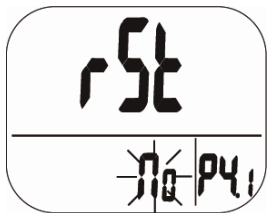

Fig. 18: no reset
- Press SET to enter P4.1 mode with blinking “No” (default), see Fig. 18, so that no reset will be done.